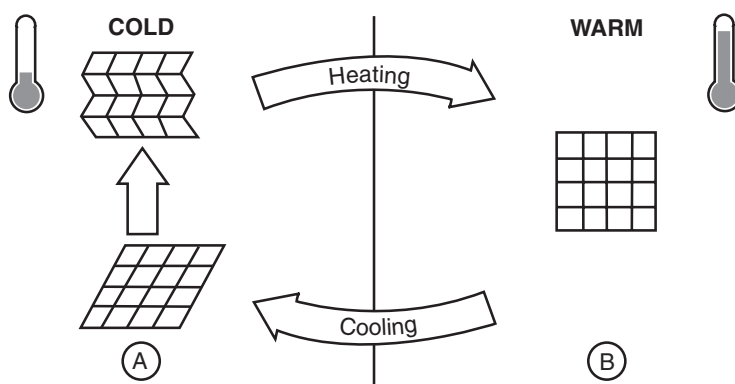

Figure 1.
4. While holding one end of the bent Live Wire, carefully dip it into the near-boiling water. The wire should instantaneously pop back straight again. Amazing that a piece of wire can “remember” and return to its original straight shape (see Figure 1).